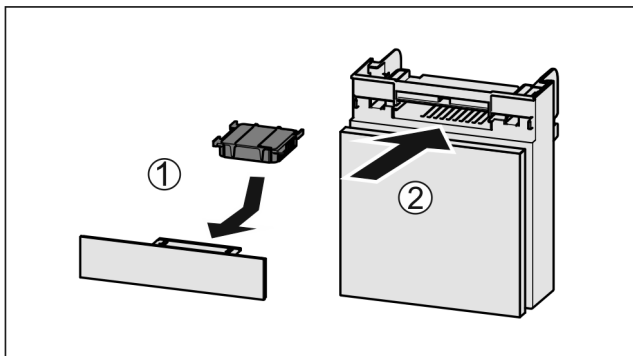

Fig. 37
- ▶ Insert the carbon filter as shown in the diagram Fig. 37 (1).
- ▶ Push the compartment in Fig. 37 (2).